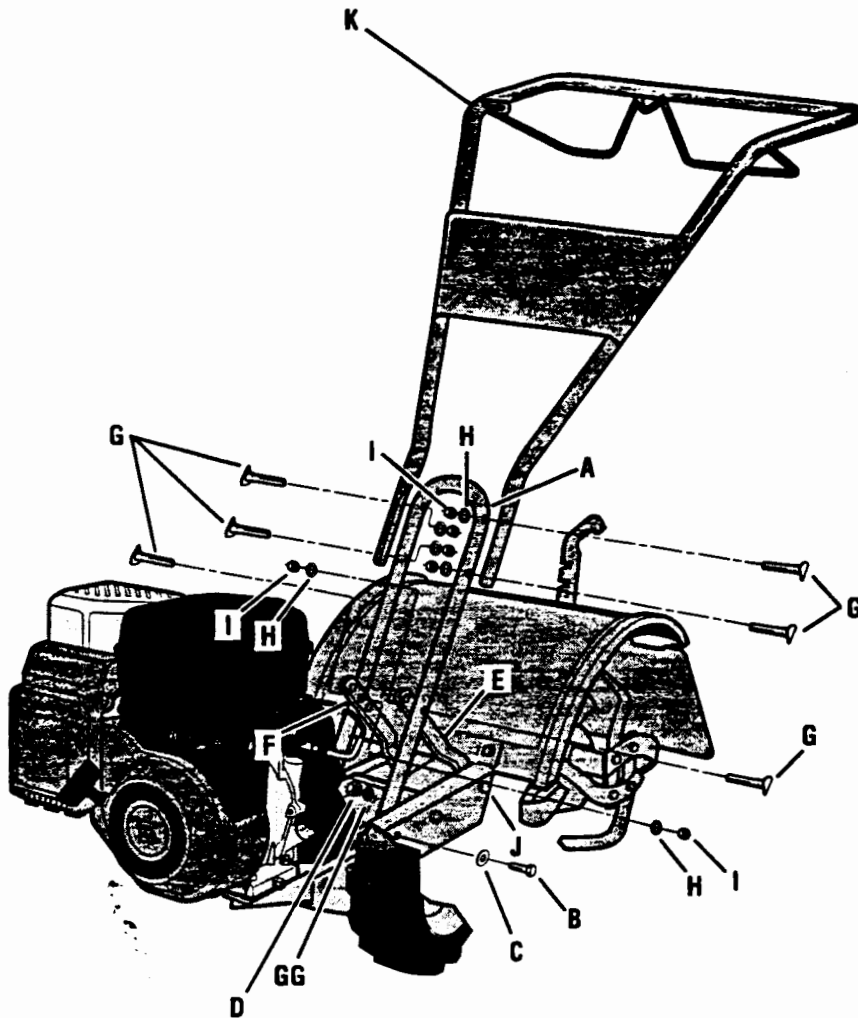

Fig. 2-2: Attach handlebar (5.5HP Model shown).
1	Handlebar Support (see A, Fig. 2-2)
1	Handlebar Assembly (see K, Fig. 2-2)
1. Loosely attach the legs of the handlebar support (A, Fig. 2-2) to the inner sides of the tiller frame using two 3/8"-16 x 3/4" hex hd. screws (B), 3/8" flat washers (C), 3/8" lock washers (GG) and 3/8"-16 hex locknuts (D).
2. There are three height adjustment holes in the two handlebar support brackets (E and F, Fig. 2-2). Use a setting that will position the handlebars at approximately waist level when the tines are 3"-4" into the soil. Loosely attach the support brackets to the handlebar support (A) using two 5/16"-18 x 1-1/2" screws (G), 5/16" split lockwashers (H) and 5/16"-18 hex nuts (I). NOTE: If a support bracket will not move, loosen attaching screw (J) and nut.
3. Attach the handlebar assembly (K) to the handlebar support (A) using four 5/16"-18 x 1-1/2" screws (G), 5/16" split lockwashers (H) and 5/16"-18 hex nuts (I). Tighten the four screws securely.